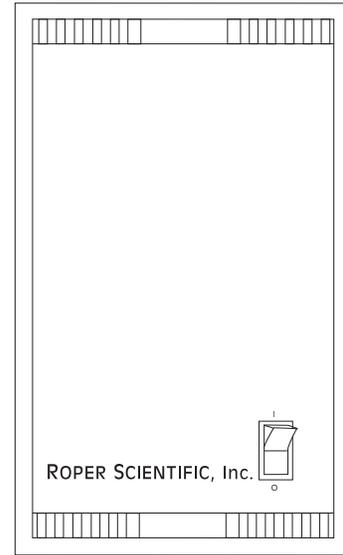

Figure 46. Controller Front Panel
**POWER Switch and Indicator:** The power switch location and characteristics depend on the version of ST-133 Controller that was shipped with your system. In some versions, the power switch (located on the front panel as shown in Figure 46) has an integral indicator LED that lights whenever the ST-133 is powered. In other versions, the power switch is located on the back of the ST-133 and does not include an indicator LED.